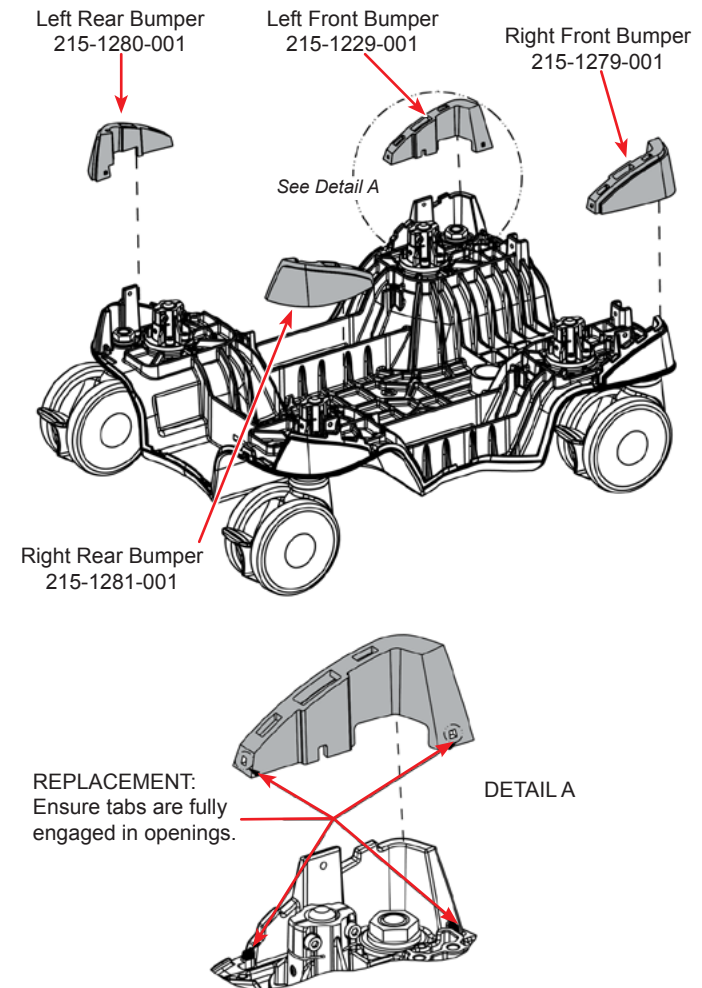

Figure 3-50 Rubber Bumper Removal
- 41.1 Remove panels listed in table below to gain access to bumper to be replaced. Refer to Figure 3-50 for Bumper location.